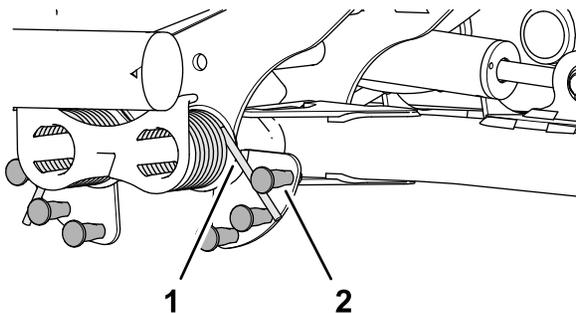

Figure 51
2. Insert the long end of the counterbalance spring into a tube or similar object, and pivot the spring around the shouldered stud to the desired position (Figure 51).